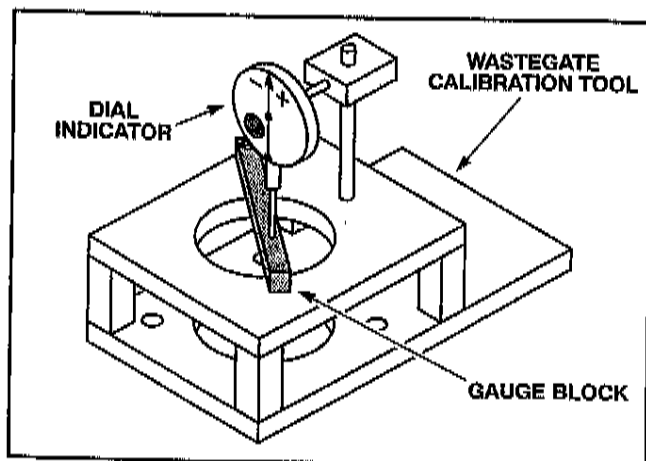

Figure 5.35-26. P/N Series 208372 Wastegate Calibration Tool
1. Loosen set screw and slide gauge block beneath dial indicator (see Figure 5.35-26). Tighten set screw.
4. Place extension at bottom of calibration tool in a vise (see Figure 5.35-26). Verify that unit is level and tighten vise to secure calibration tool against movement.